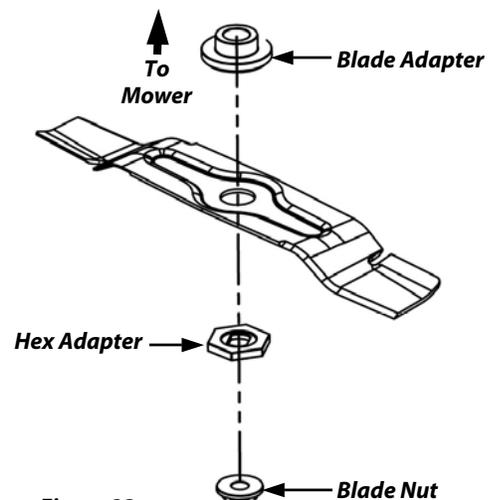

Figure 23
3. Remove the Blade Nut, Steel Hex Adapter, Blade, and Steel Blade Adapter in that order (**Figure 23**).
4. To install a sharpened Blade or a new Blade, reverse the order of step 3. Be sure to replace all parts exactly as you removed them (**Figure 23**) and make sure to properly seat the Blade.